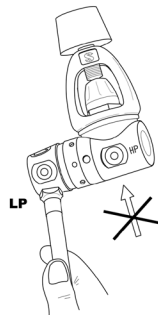

fig. 1
**Low Pressure (LP) hose**
Connect the low pressure (LP) hose of the Power Inflation Valve or A.I.R. 2 to an unused LP port of the first stage, **that must have the same thread** (fig. 1).